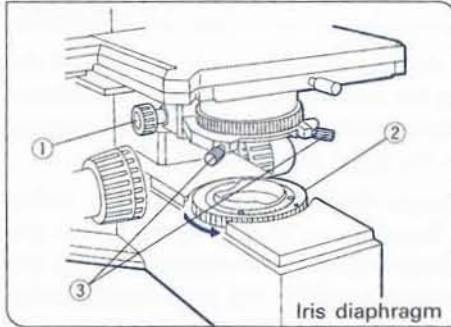

Fig. 39
(Figs. 39,40,41,42)
1. Turn the condenser height adjustment knob ① and raise the condenser to its upper limit. (Fig. 39)